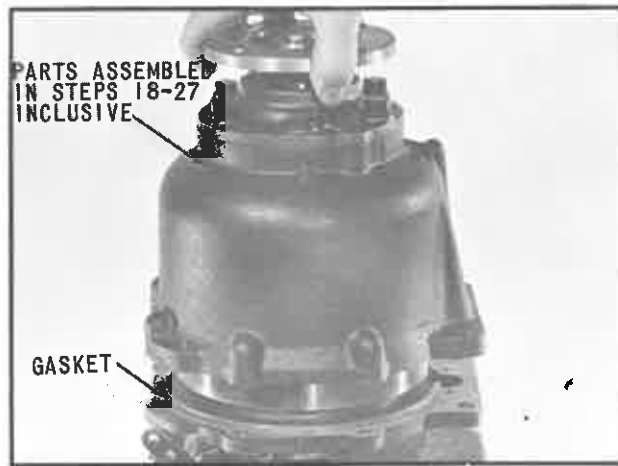

Fig. 31 Assembling Reduction Unit to Forward and Reverse Transmission
28. Supporting the parts previously assembled in steps 1 through 17 on their front face on a clean flat surface or block, install the reduction housing adapter gasket-rear on the adapter as shown in (Fig. 31).